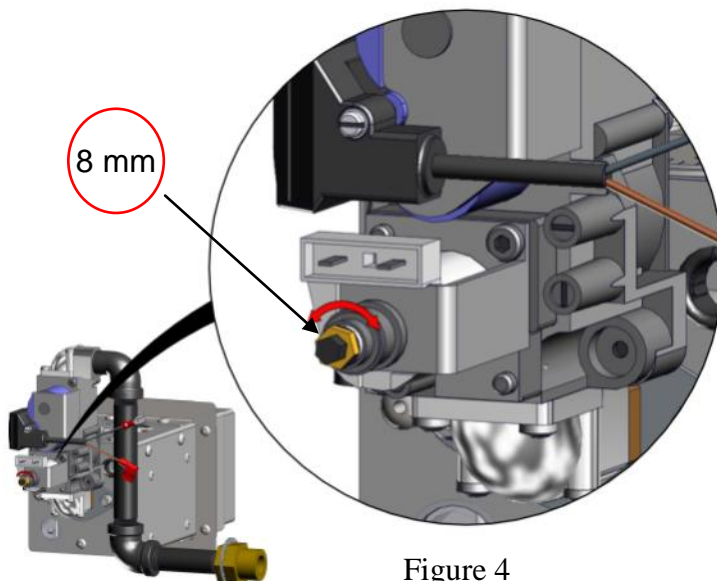

Figure 4
- Using a 8mm socket turn the High Flame Bias screw (Figure 4) until desired setting is achieved. Use chart on next page (Figure 5) for correct valve settings.